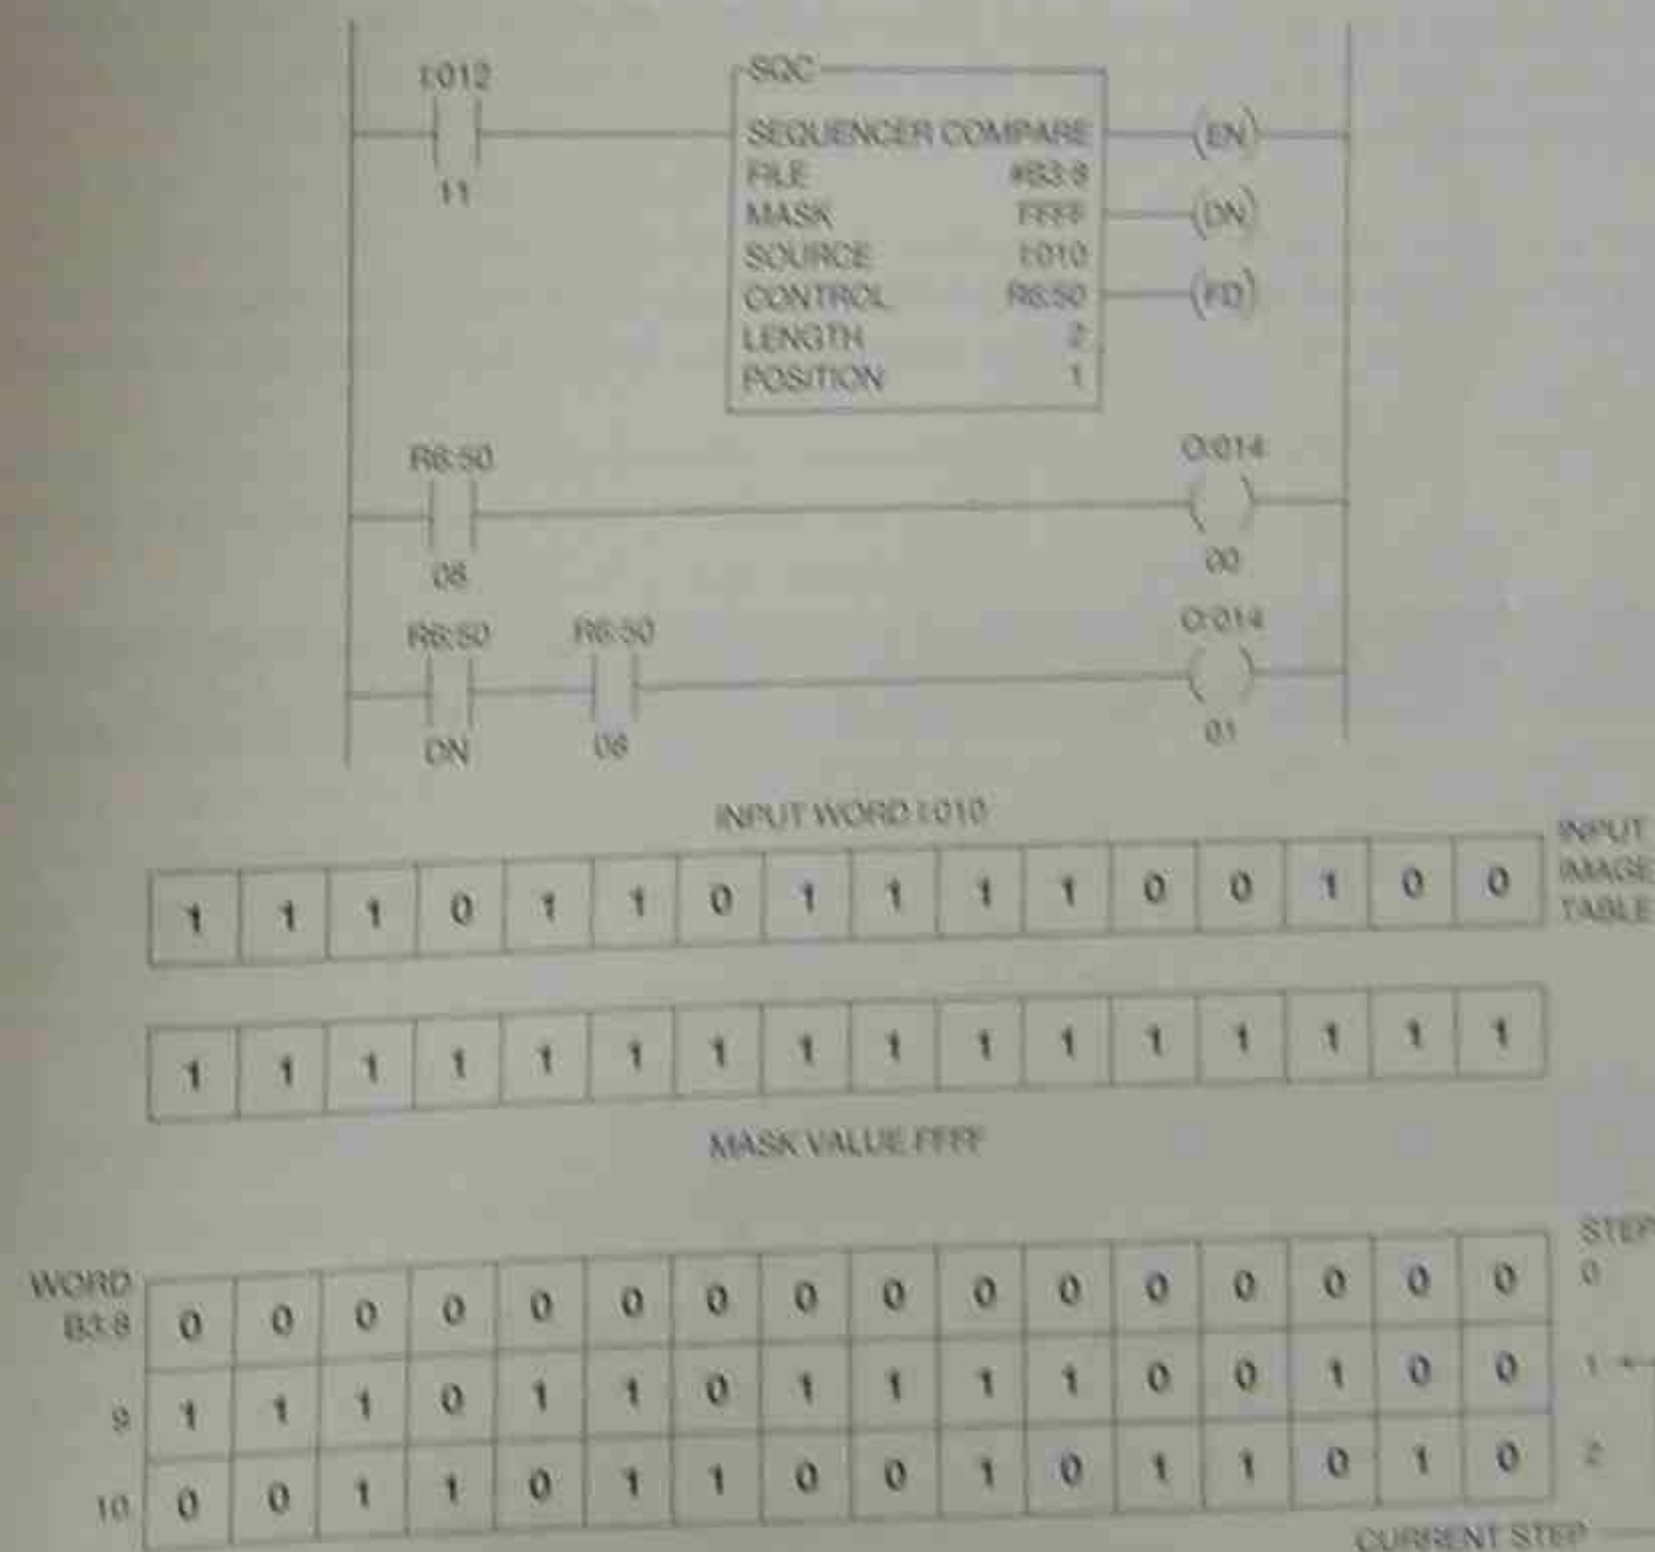

Figure 17-11 SQC Instruction with File Compare
As shown in Figure 17-11, if the bit status of I:010 matches the bit status of B3:9, the processor sets bit 08 (FD) of the Control word to 1. If bit 08 of control word R6:50 was programmed to an output device, like indicator lamp (O:014/00) shown in Figure 17-11, the output device would turn ON when bit 08 was set to 1. This light indicates that the input devices of the process machine are operating correctly and the machinery is ready to start producing Product A. If the data of the two words does not match, bit 08 will not be set to 1. The processor will continue to compare the status of input word I:010 with the data stored in Step 1 of the sequencer on each program scan. When the input devices are set (ON or OFF) correctly and match sequencer Step 1, bit 08 will be set to 1, and output indicator lamp O:014/00 will turn ON.